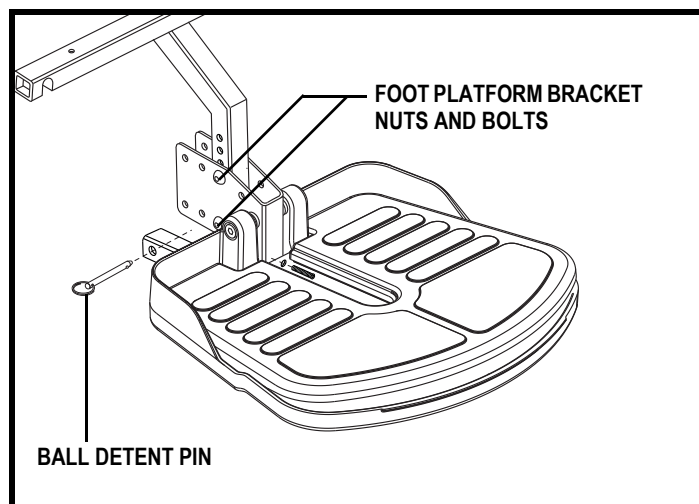

Figure 18. Foot Platform Height Adjustment
1. Remove the nuts and bolts from the foot platform bracket. See **figure 18**.